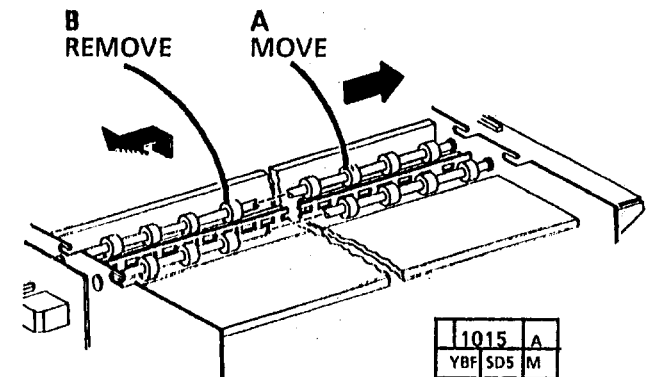

Figure 2. Removing the Feed Roll(s)
6. (Figure 2): Remove the feed roll(s).